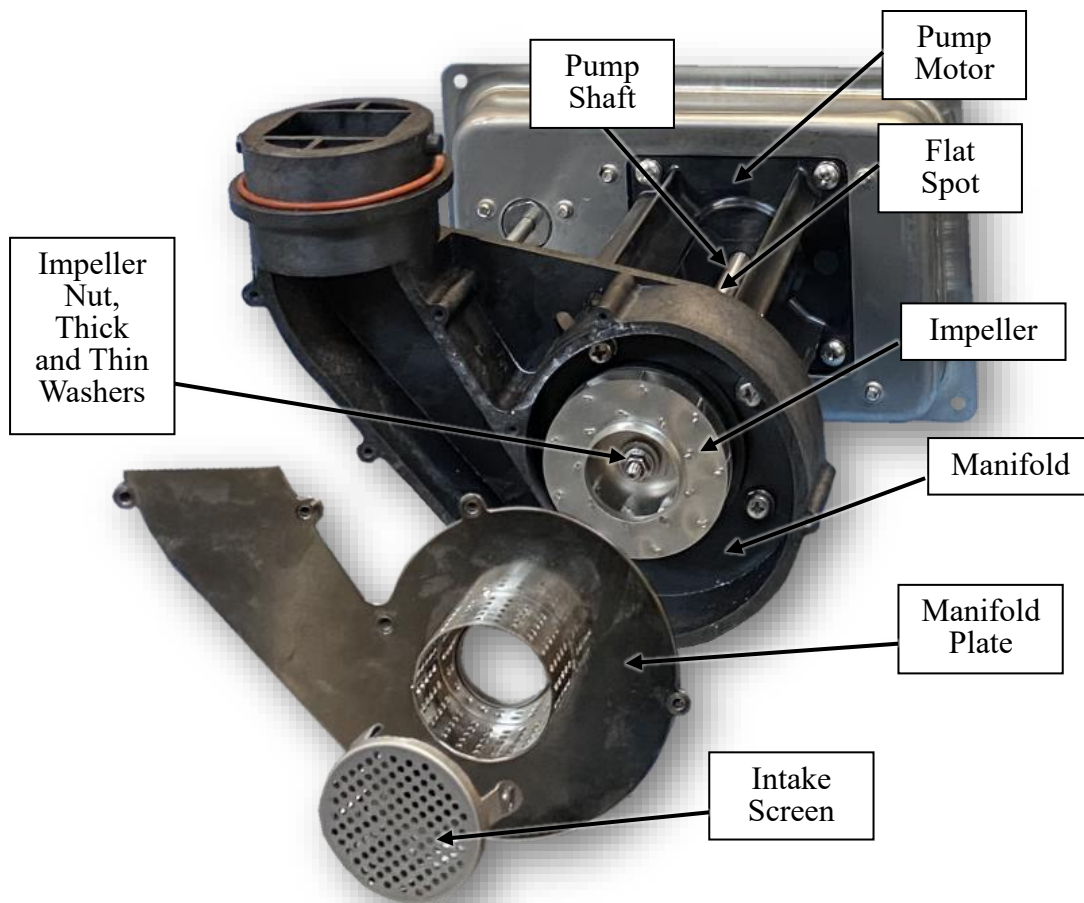

Figure 28 – Pump Exploded View
- c. Rotate the Pump Shaft (**See Figure 28**). The shaft should rotate extremely easily and smoothly by rolling a finger across it. There should be no stiffness, rough spots or binds. If there is stiffness or it feels bound, inspect around the Impeller for any obvious buildup that can bind up the Impeller. To thoroughly inspect for any buildup around the Impeller, the Manifold Plate can be removed (seven screws). Clean up any buildup around and behind the Impeller and check the rotation of the shaft again. If there is still binding, the bearings may be worn, and the pump will need to be replaced. The impeller can also be removed. To remove the impeller, use a $\frac{1}{4}$ " open end wrench to secure the Pump Motor Shaft at the flat spot on the shaft. Unscrew the 7mm nut at the bottom of the impeller while locking down the shaft with the $\frac{1}{4}$ " open end wrench. When placing the Impeller back on the shaft, ensure the washers are in their appropriate positions (thick and thin washers between the Impeller and nut, thick and thin washers between the Impeller and Manifold). Rotate the shaft after reattaching the Impeller and Manifold Cover. If there is any metal-on-metal sound while turning the shaft, loosen the seven screws that secure the Manifold Cover and tighten one at a time to ensure the impeller lip is not rubbing against the Manifold Cover. There is very little space tolerance between these two components.